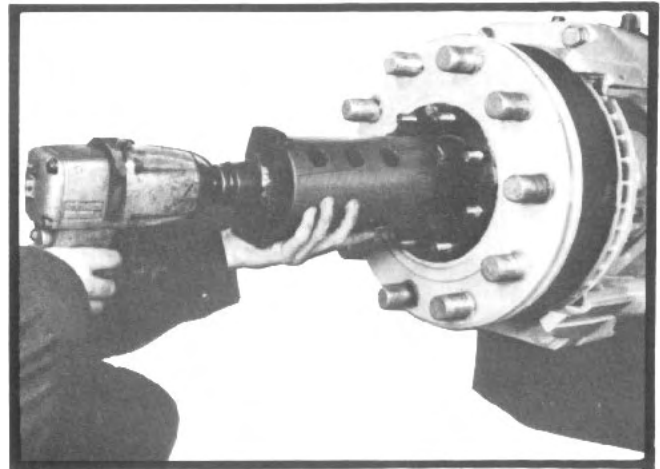

Fig. 10
6. Remove wheel bearing nuts and lockwasher from spindle with a Fabco wrench (See Tool Reference, Section XII and fig. 10).
4. Remove wheel bearing nuts and lockwasher from spindle with a Fabco wrench (See Tool Reference, Section XI and fig. 10, page 10).